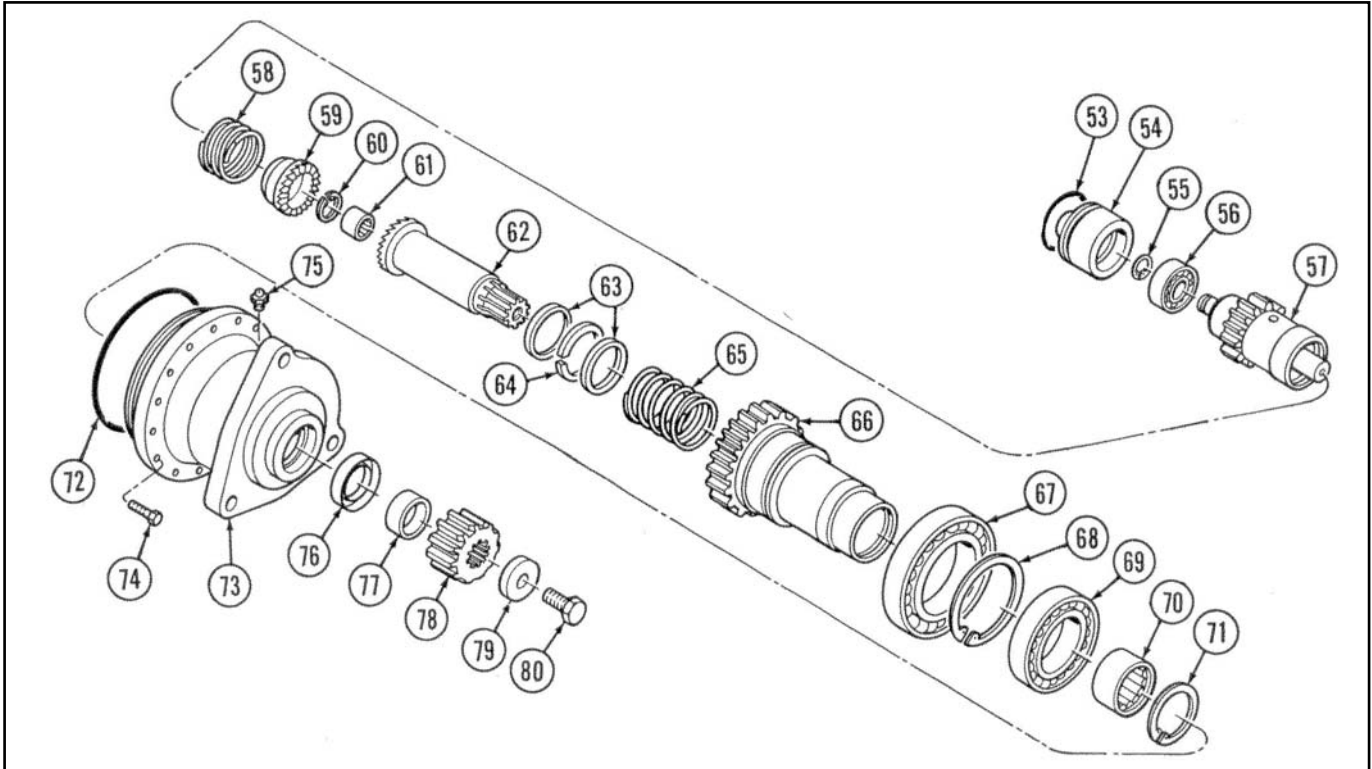

Figure 5. Drive Assembly
The drive assembly, refer to figure 5, consists of a piston (54), helical shaft spline (57), dental clutch (59) and drive pinion shaft (62). The clutch assembly (57 thru 65) is installed into the spur gear (66). The spur gear (66) is supported by the aft bearing (67), which is secured by the retaining ring (68).